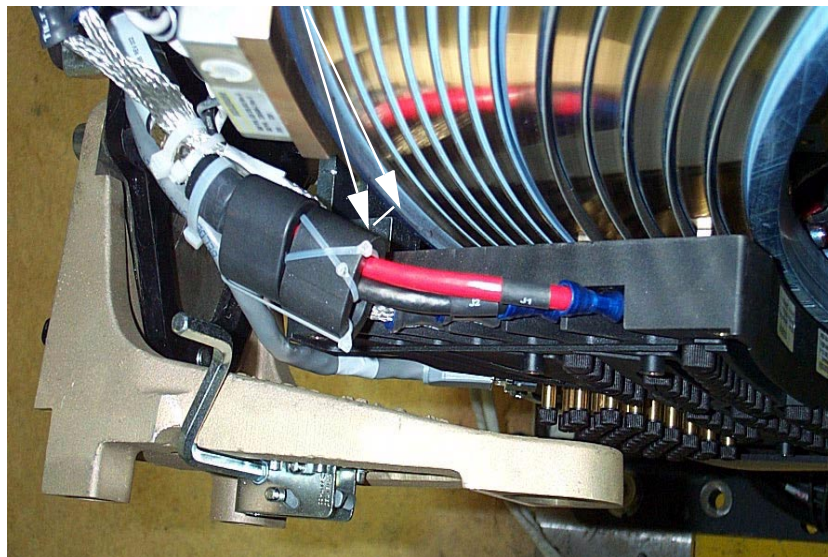

Figure 3 Ferrite Core Clearances
- 14.) Refer to Figure 2 and Figure 3. The core nearest the brush block needs to be held in place. Loosely install two cable ties in a criss-cross fashion through the ferrite core and around the wires. Pull these ferrite cores away from the slip ring and slide the cores as far up the wires (away from the lugs and brush block) as possible.
- 17.) See Figure 3. Verify that there is a minimum of 1 cm clearance between the ferrite cores and the slip ring. If needed, pull on the wires a bit to provide this clearance. The wires are stiff enough to hold a new shape. Make sure all wires and cables are clear from the slip ring. Use additional cable ties as needed.